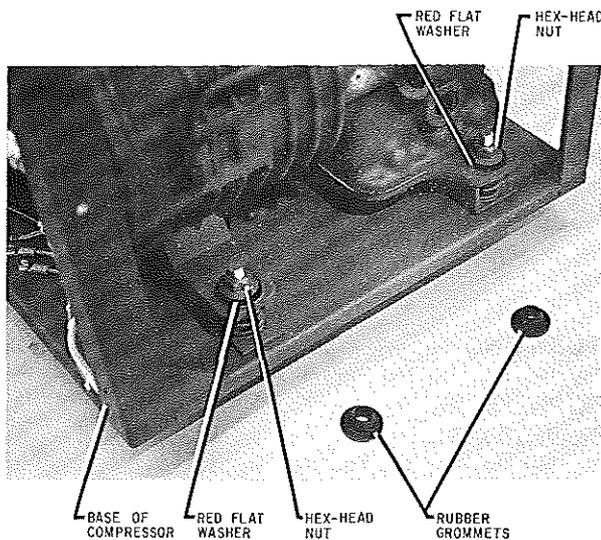

Figure 3.2 Removing compressor pump shipping supports
1. After removing the compressor front panel, refer to Figure 3.2 and remove the front two compressor pump shipping supports.